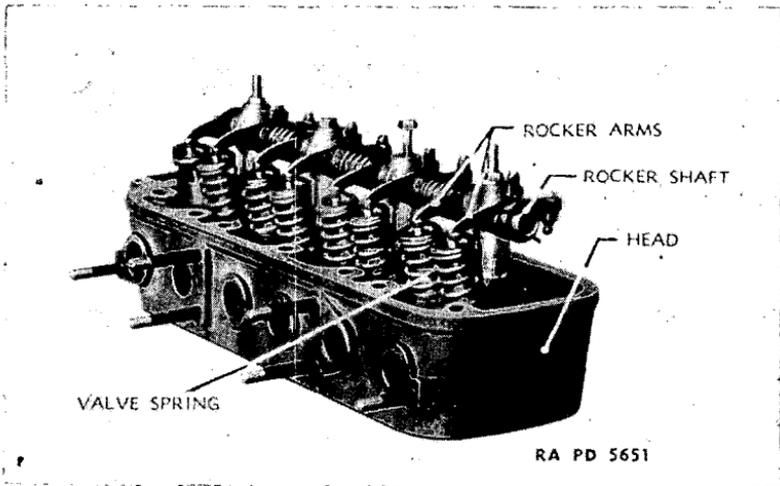

FIGURE 13.—Cylinder head assembly.
**43. Cylinder head.**—*a.* The cylinder head (figs. 13 and 14) is of the valve-in-head type with removable valve guides.